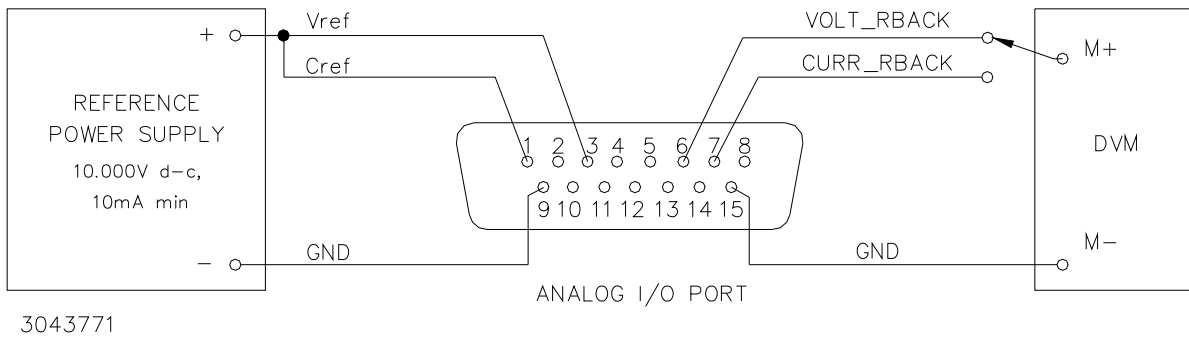

FIGURE 4-1. ANALOG PORT WIRING FOR CALIBRATION
5. Configure the mating I/O connector (provided with unit) to access the input programming signals (Vref and Cref) and output readback signals (VOLT_RBACK and CURR_RBACK) as shown in Figure 4-1. Note that the wires to Vref and Cref should be tightly twisted with the corresponding GND wire and kept as short as possible. Then connect the I/O mating connector to the Analog I/O port of the power supply.
3. Tap the **DC OUTPUT** switch to accept the value; the status display now reads **OUTV**. At the ANALOG I/O PORT J2, connect the DVM to VOLT_RBACK and GND as shown in Figure 4-1. Rotate the **VOLTAGE** control to increase or decrease the output voltage until the DVM reads as close as possible to 10V.
5. Tap the **DC OUTPUT** switch to accept the value; the status display now reads **OUTC**. At the ANALOG I/O PORT J2, connect the DVM to CURR_RBACK and GND as shown in Figure 4-1. Rotate the **CURRENT** control to increase or decrease the output voltage until the DVM reads as close as possible to 10V.
9. If password is correct, the status display on the VXI main panel reads CAL and the buttons on Calibration Screen (Figure 4-1) are enabled (highlighted). If the password is incorrect, the password text box displays “WRONG #”. Repeat step 7 to enter the correct password, or click the **Calibrate Close** button on the VXI main panel to exit calibration.
3. Click the **Press to ACCEPT** button to accept the value; the status display now reads **OUTV**. At the ANALOG I/O PORT J2, connect the DVM to VOLT_RBACK and GND as shown in Figure 4-1. Click the “+” button to increase and the “-” button to decrease the output voltage until the DVM reads as close as possible to 10V.
5. Click the **Press to ACCEPT** button to accept the value; the status display now reads **OUTC**. At the ANALOG I/O PORT J2, connect the DVM to CURR_RBACK and GND as shown in Figure 4-1. Click the “+” button to increase and the “-” to decrease the output current until the DVM reads as close as possible to 10V.